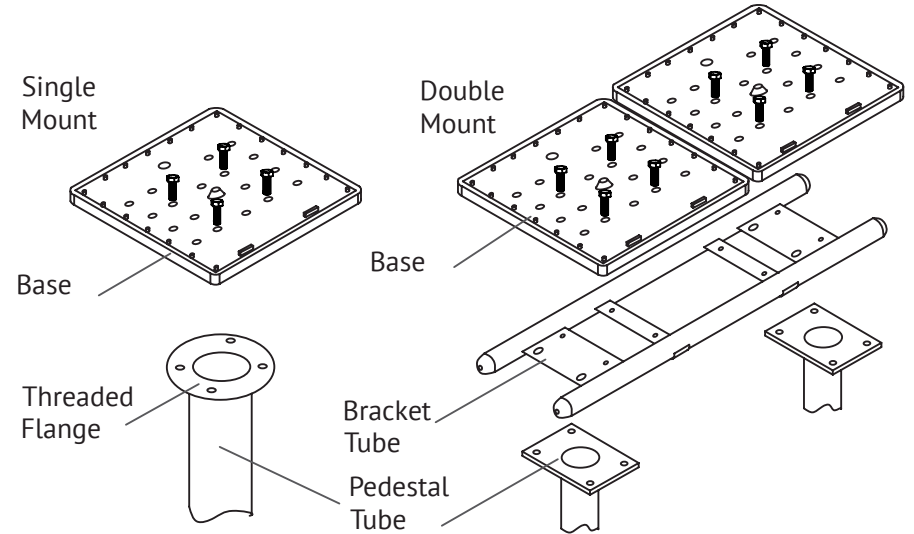

Figure 5.
(Fig. 5). **NOTE: THE FRONT OF BASE HAS A NOTCH FOR THE PRODUCT CHUTE.**
- e. Align the holes within the vendor's Base to the large holes within the Threaded Flange (Fig. 5).
- b. Place the Large Double Bracket to the top. Make sure to align the large holes on the threaded Flange with the Double Bracket. (Fig. 5).
- c. insert bolts as shown. (Fig. 5).